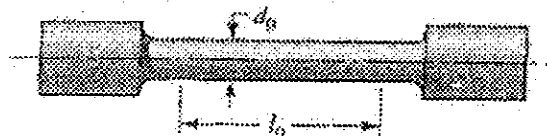

Figure-1
- (a) A steel specimen shown in figure -1, used by SAE laboratory to performed standard tension test on UTM for evaluating several mechanical properties.